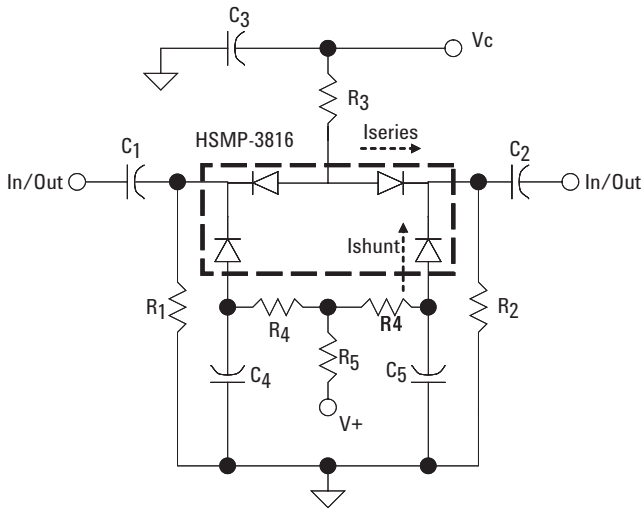

Figure 1. Wideband Quad PIN Diode π Attenuator Circuit
3. The Max Input Power is tested using demoboard as shown in Figure 1 at the worst-case (highest attenuation) bias condition of V₊=5V, V_c=0V.
1. Measurement above obtained using Wideband RF circuit design shown in Figure 1 & 2
1. Measurements above were obtained using Wideband RF circuit design shown in Figures 1 and 2.